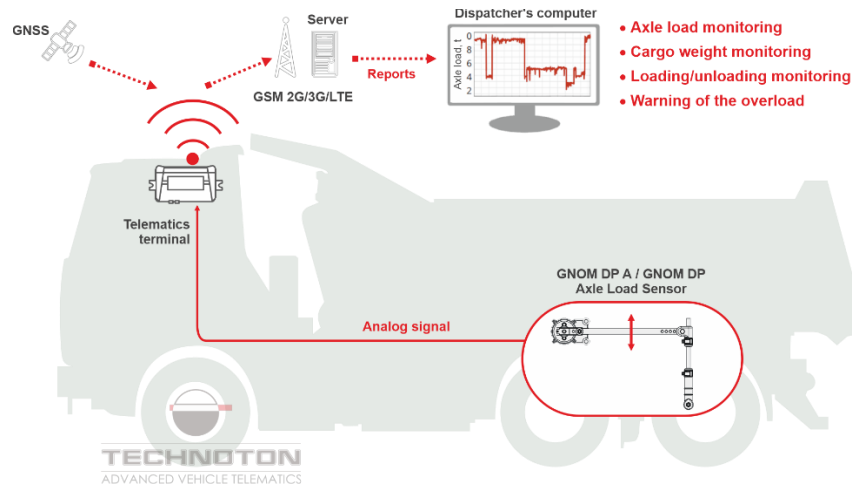

Figure 4 — Example of GNOM DP A / GNOM DP sensor application for monitoring axles load of a truck
1) For monitoring the axle load of a truck (see figure 4).